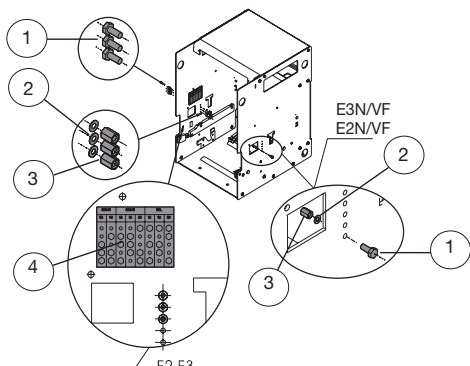
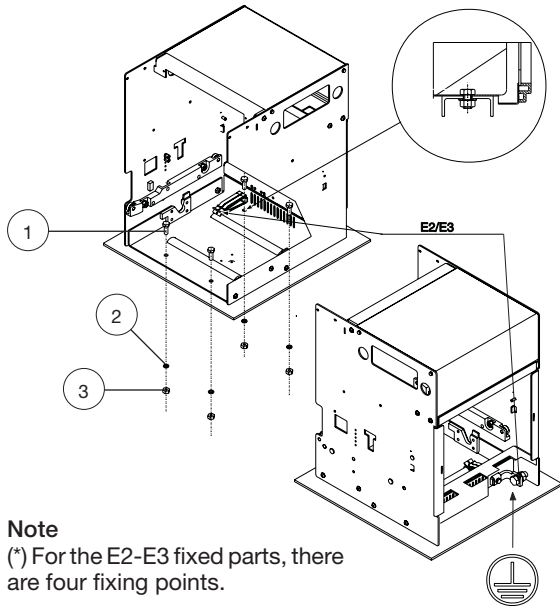

Fig. 9
Fig. 12
4.3.2. Installation of the fixed part (Fig. 12)
The fixed circuit-breaker and the fixed part of the withdrawable circuit-breaker have one or two terminals on the rear, marked with the special symbol, for connection to earth (Fig. 9 and Fig. 12).